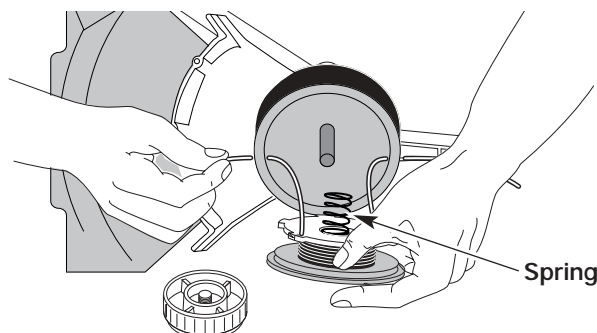

Figure 39
- Insert the ends of the line through the eyelets in the outer spool and place inner reel with spring inside the outer spool. See Figure 39. Push the inner reel and outer spool together. While holding the inner reel and outer spool, grasp the ends and pull firmly to release the line from the holding slots in the reel.
5. Insert the ends of the line through the eyelets in the outer spool. See Figure 39.